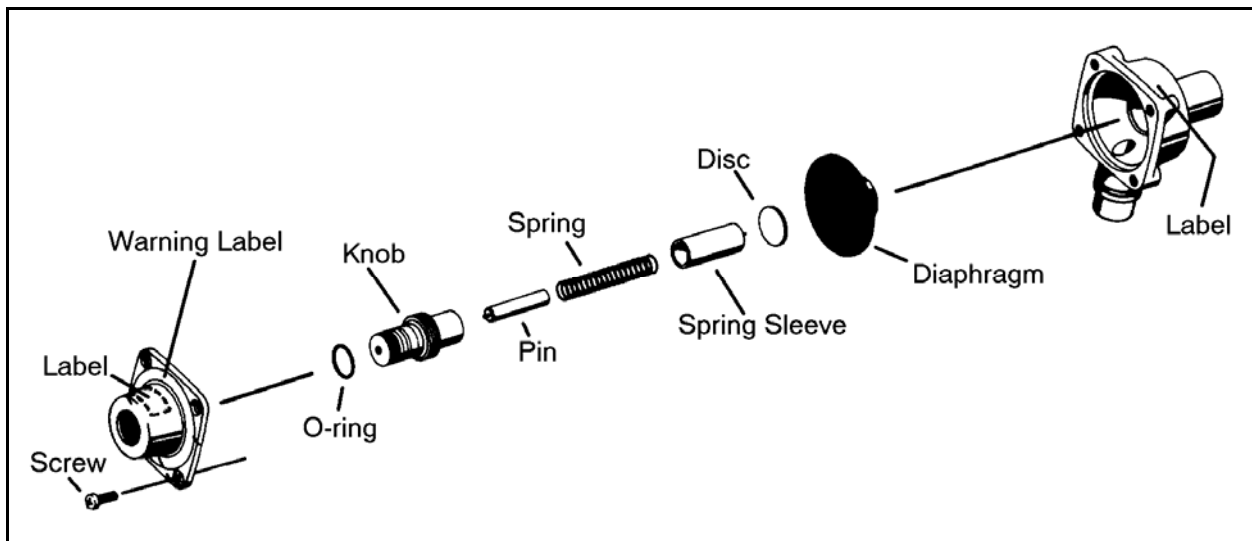

Figure 1-4. Exploded view of gas evacuator/relief valve.
- (3) Clean loose parts.
- (4) Replace loose parts.
c. **Gas Evacuator/Relief Valve Maintenance.** Periodically, check the gas evacuator/relief valve to ensure valve does not stick open or shut and does not shutter. Refer to figure 1-4.